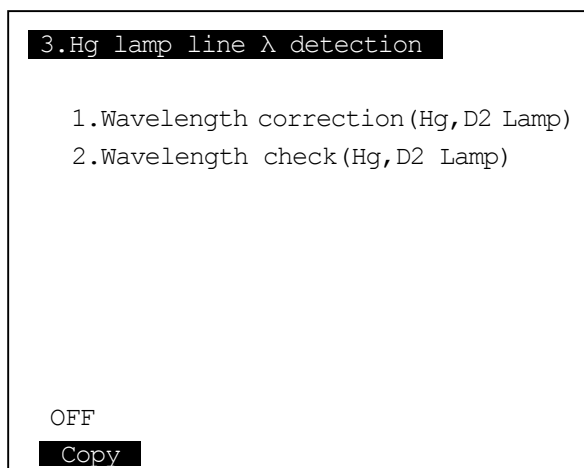

Fig. 8-36 Hg/D2 lamp line wavelength detection screen
2) Select “**2. Optics check**” from maintenance mode top menu followed by “**3. Hg lamp line  $\lambda$  detection**” (see Fig. 8-36).